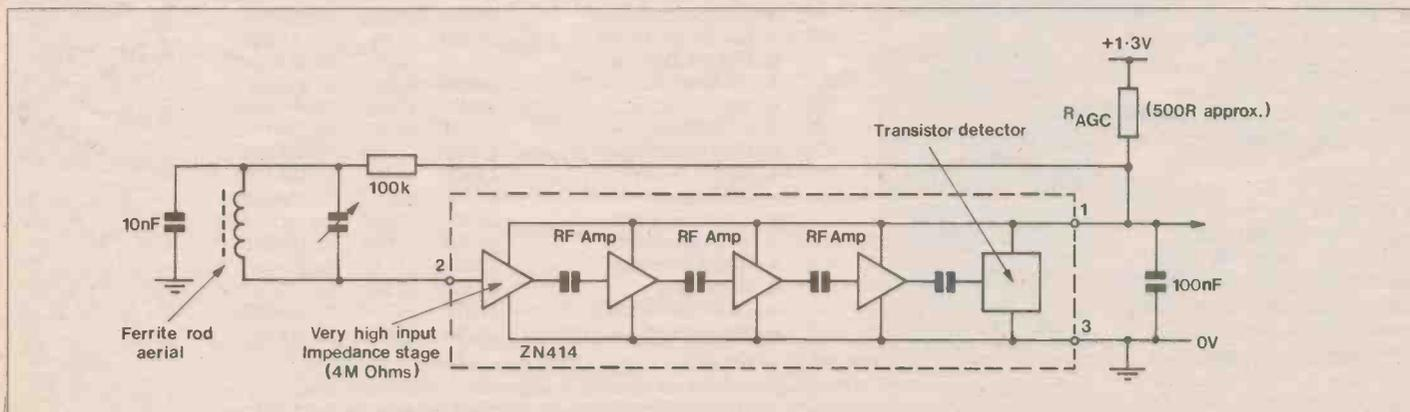

Figure 1. The ZN414 (within chain outline) in its most basic circuit configuration.
Figure 1 shows the internal arrangement of the ZN414 and also the external components needed to put it into a basic configuration,
- The decoupling capacitor across the output (100nF shown in Figure 1) should be wired as close to the chip pins as possible. Its value is related to that of the AGC resistor as follows.